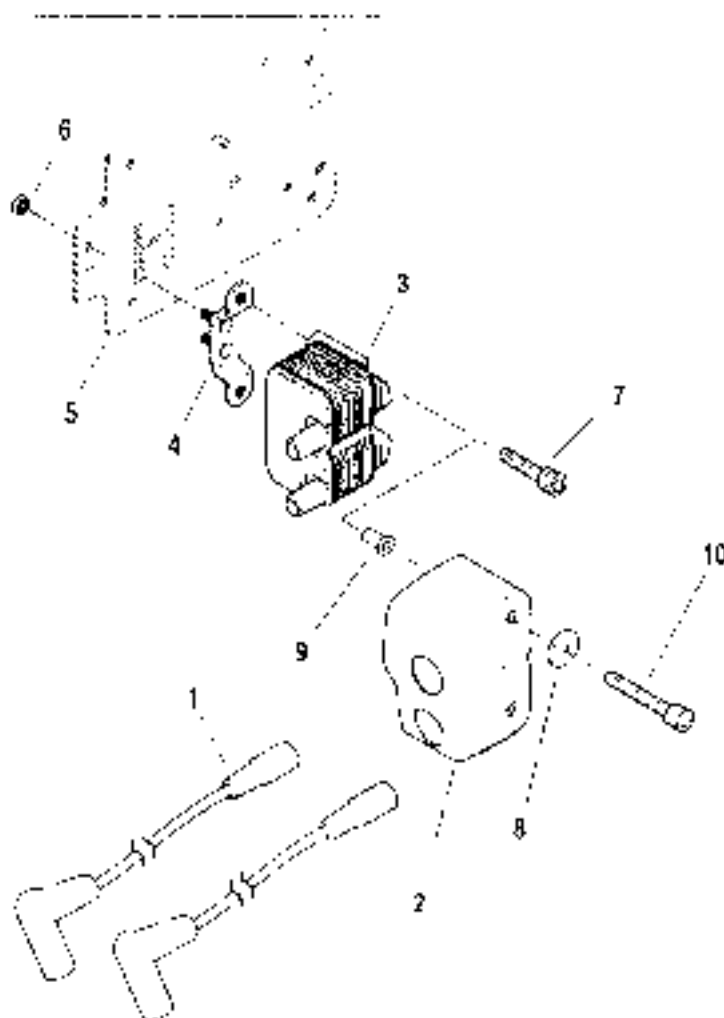

Figure 8-18. Ignition Coil
2. See Figure 8-18. Remove both plug wires from coil towers.
2. Figure 8-18. Position coil (3) and coil cover on FXDL, FXDXT and FXDWG (2) on mounting bracket (4) and install two bolts.
4. Attach plug wires (1) to coil towers. Rear cylinder plug wire attaches to upper coil tower. See 8.8 SPARK PLUG CABLES.